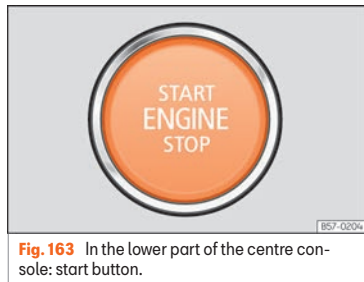

Fig. 163 In the lower part of the centre console: start button.
When entering the vehicle, the start button >>> **Fig. 163** flashes to draw attention to it.
- Press the starter button »» Fig. 163; do not press the accelerator. There needs to be a valid key inside the vehicle for the engine to start. After starting the engine, the lighting of
- Briefly press the start-up button >>> **Fig. 163**.